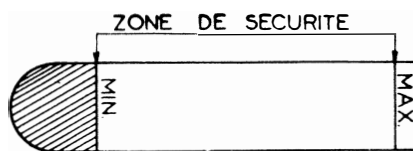

Fig. 26 -
- The owner should be advised never to add oil during the trip the moment the engine has stopped, if the level is above the «mini» notch (fig. 26). At that time, the oil held in the lines and the filter has not dripped yet, completing the level therefore, will cause splashing of oil along the cylinders and profitless elimination of oil added.